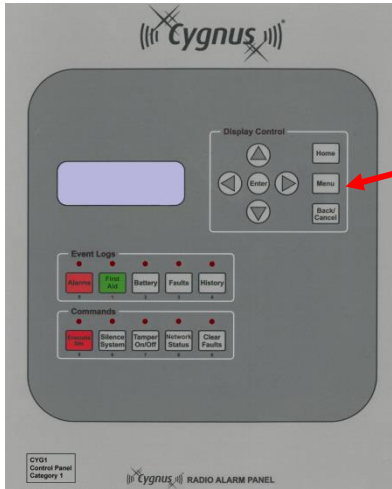

Figure 6-2: Control Panel showing the Menu button
1. From the Home display, press the Menu button (Figure 6-2).